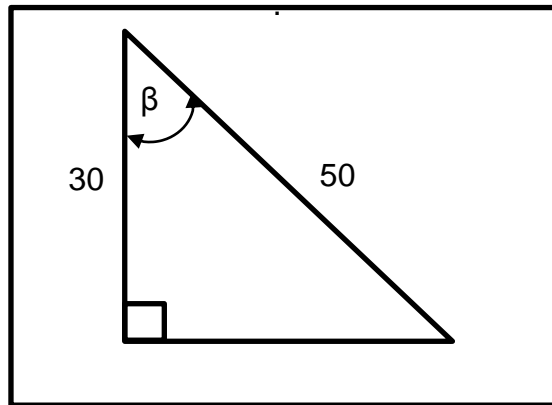

FIGURE 4.4
4.4 What is the value of angle β as indicated in FIGURE 4.4 below?